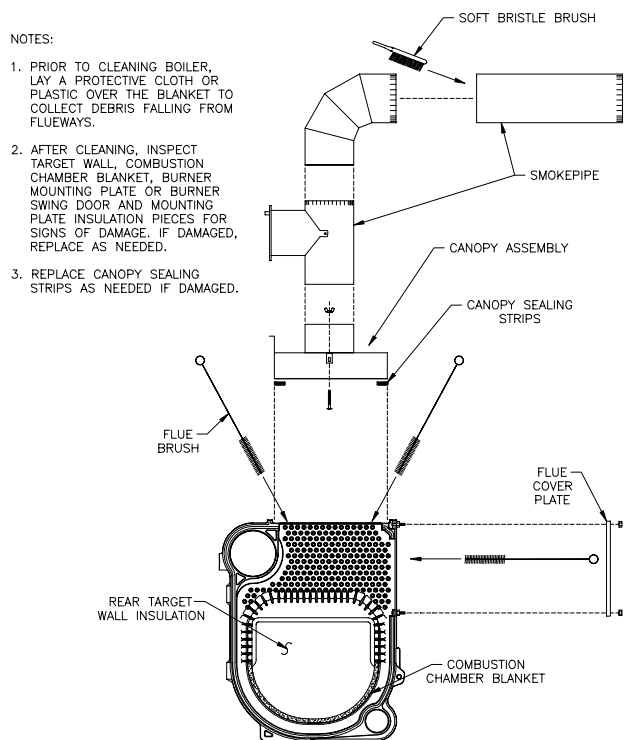

Figure 26: Cleaning of Boiler Flueways
A. CLEAN THE FLUEWAYS (See Figure 26).